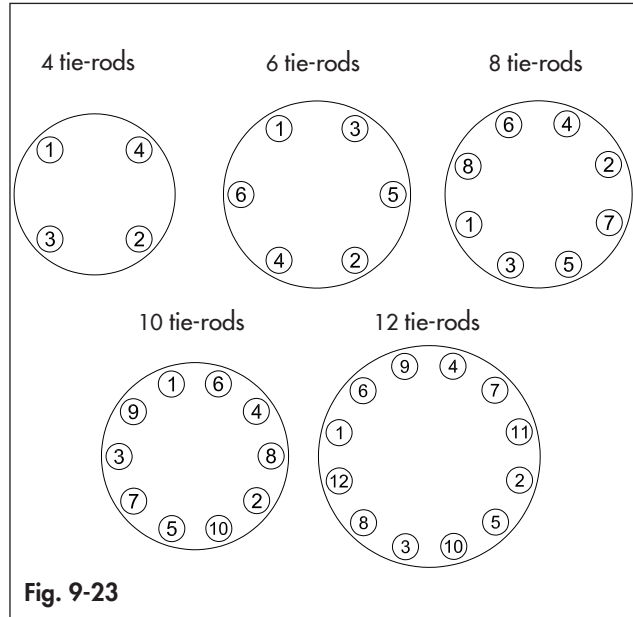

Fig. 9-23
- ➔ Follow the specified sequence shown in Fig. 9-23.
- Observe the specified sequence shown in Fig. 9-23.